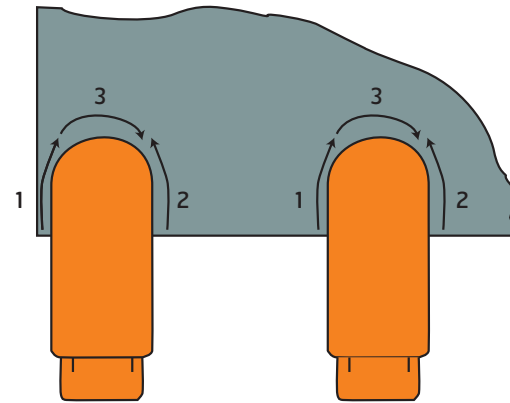

FIGURE 6
5. Turn the cutting edge over and complete the remains welding on the top side using the weld sequences shown in figure 6.